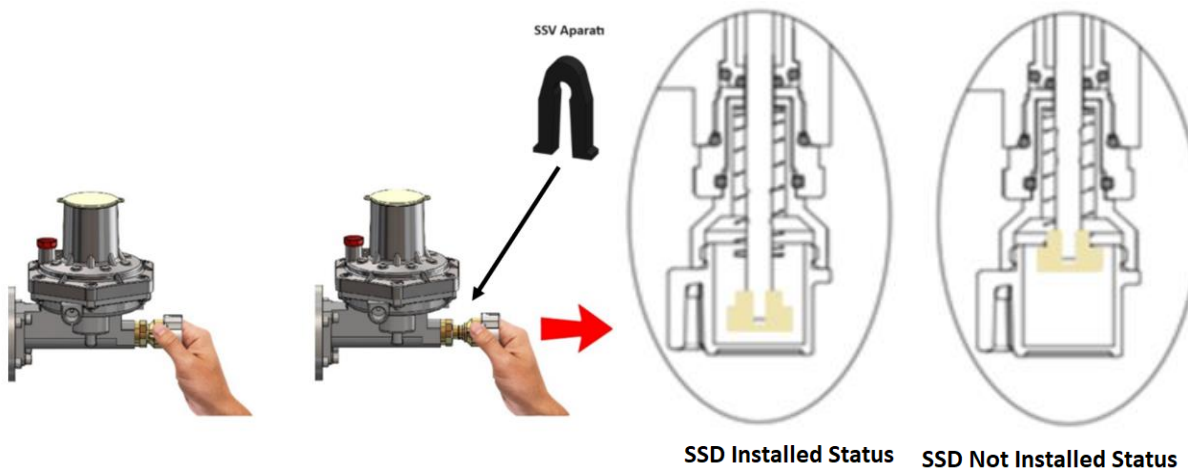

Figure 8: Safety Device
- 4- Pull down for a little amount the "Shutoff Cocking Lever (30)" that is transparent in color, slowly. This will provide gas passage to the output side like a leak. Continue this situation for several seconds (at least 6). Later on very slowly and gradually pull down the "Shutoff Cocking Lever (30)" all the way and wait few seconds than remove your hand. Verify that the lever stays down and observe that there is gas passage to the output, install the shut off section (Figure 8) (pull without applying excessive force, load and impact)
In ERG-H6 series products, during operation the output pressure may increase due to gas not being clean and internal leak occurring based on foreign substances in the line, and the overpressure shutoff system of the product may shutoff and cut the gas. Safety shutoff position is observed on the "Shutoff Cocking Lever (30)" as on Figure 8. In that case the installation should be repeated. During operation, if the output pressure of the product drops excessively due to various reasons and reaches the configured shutoff pressure, the under-pressure shutoff system kicks in and the gas passage can be shut. In that case the installation should be repeated.